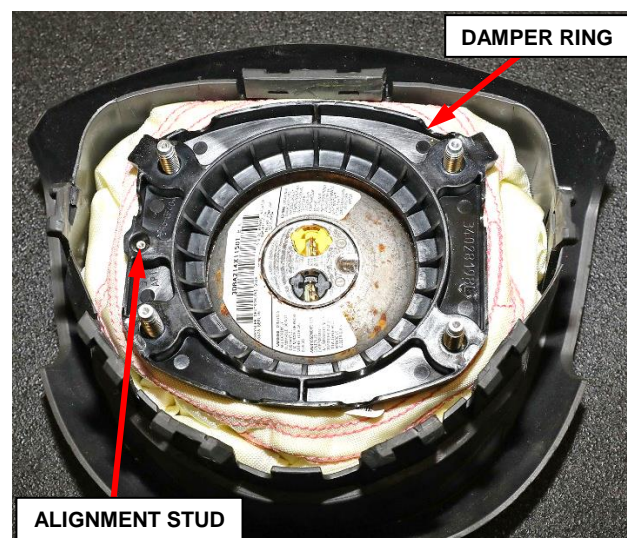

Figure 15 – Damper Ring (KA) Only
2. (KA) **Dodge Nitro**, if equipped, Install the plastic damper ring. Ensure the ring is properly aligned with the alignment stud (Figure 15).